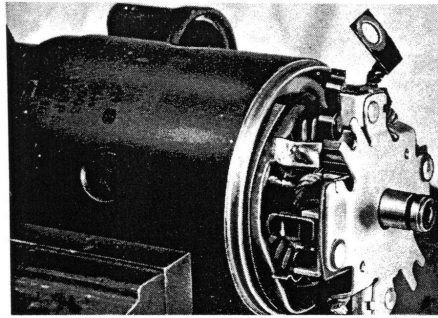

Fig. 52
3. Withdraw brushes from holders. The plus-brushes are soldered to the winding, the minus-brushes to the brush holders. (see Fig. 52).